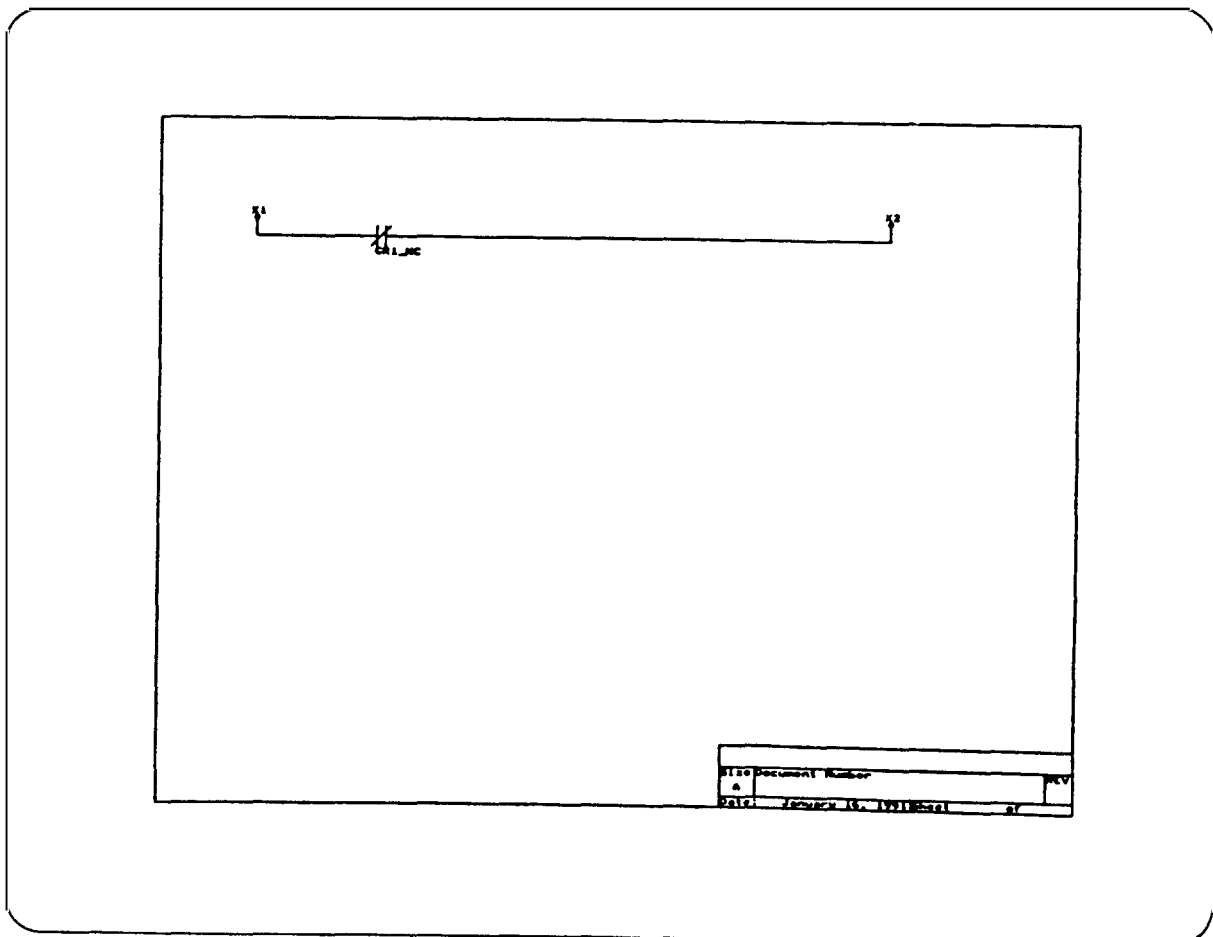

Figure 4-7.
26. Repeat process to draw ladder and ZOOM OUT to produce Figure 4-7.